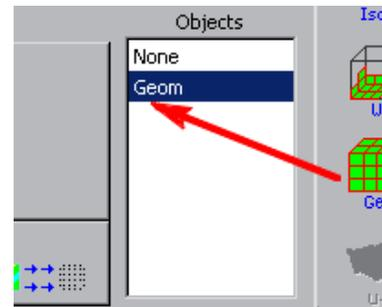

Fig.65. The Objects window
- Select the *Geom* object from the *Objects* window (see Fig. 65) – it represents geometry of the entire model.